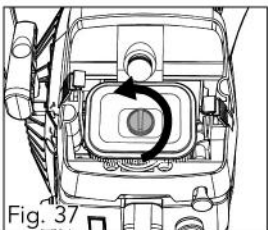

Fig. 37
2. Loosen the cover knob and remove the filter assembly (fig. 37).